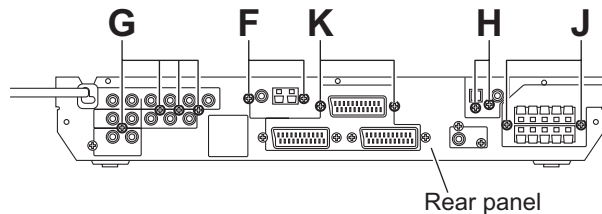

Fig.8
- From the back side of the main body, remove the two screws **F** attaching the tuner to the rear panel. (See Fig.8)
- From the back side of the main body, remove the four screws **G** attaching the PAL prg board to the rear panel. (See Fig.8)
- From the back side of the main body, remove the two screws **H** attaching the DSP board to the rear panel. (See Fig.8)
3.1.8 Removing the SPK term. board (See Figs. 8 and 9)
- (1) From the back side of the main body, remove the two screws **J** attaching the SPK term. board to the rear panel. (See Fig.8)
3.1.9 Removing the SCART board (See Figs. 8 and 10)
- (1) From the back side of the main body, remove the two screws **K** attaching the SCART board to the rear panel. (See Fig.8)